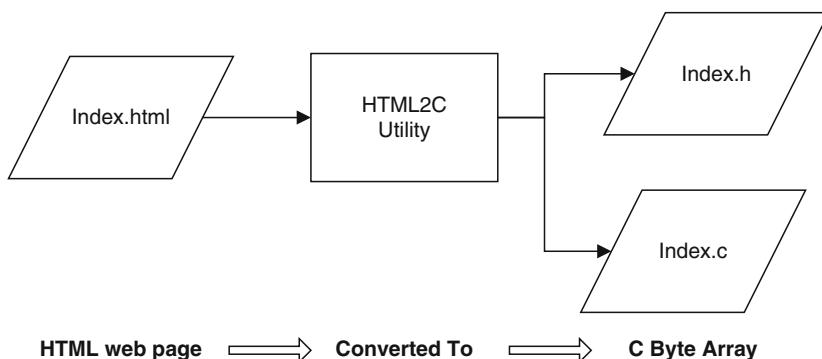

Fig. 8.10 HTML2C Conversion Utility
9. There is another folder inside the project folder, *VFILE_DIR*, which contains the default web page. The web page file, *index.html*, has two accompanying files, *index.h* and *index.c*. These two C files were generated by the HTML2C application also included in the folder. The application converts the HTML text file into a C byte array. The web page "array" is physically stored in 8051 code memory. See Figure 8.10. When you add your own web page or modify the default page, you must run the HTML2C utility to update the C source files.